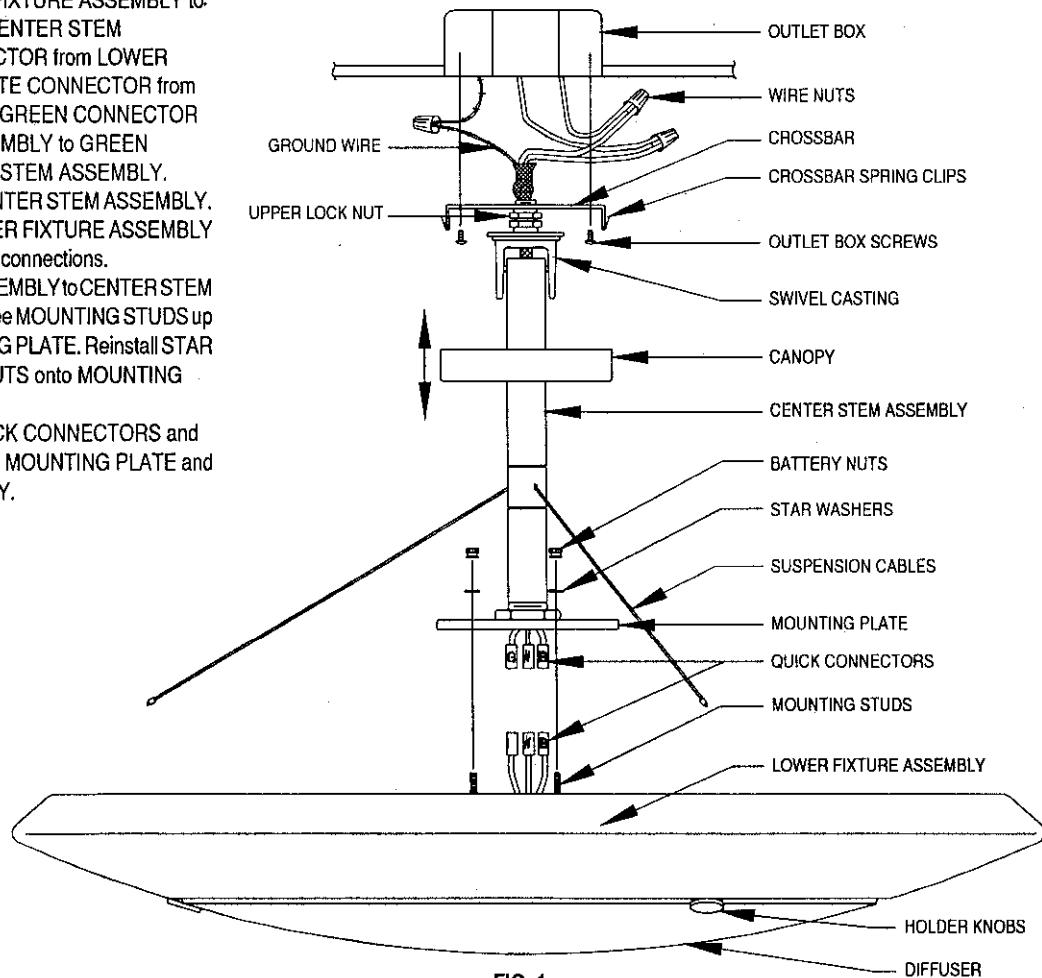

FIG. 1
2. From below fixture, push up on one side of the DIFFUSER and allow the opposite to drop down past HOLDING KNOB (Fig. 1).